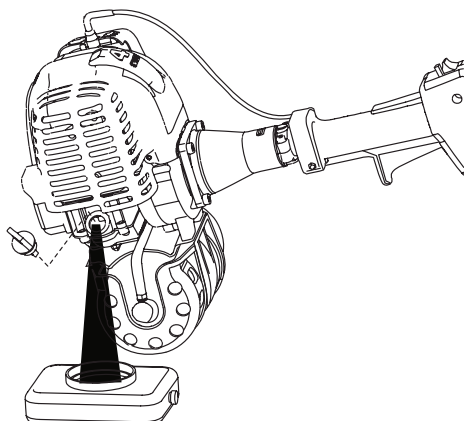

Fig. 18
3. Pour the oil out of the oil fill hole and into a container by tipping the unit to its side (Fig. 18). Allow ample time for complete drainage.